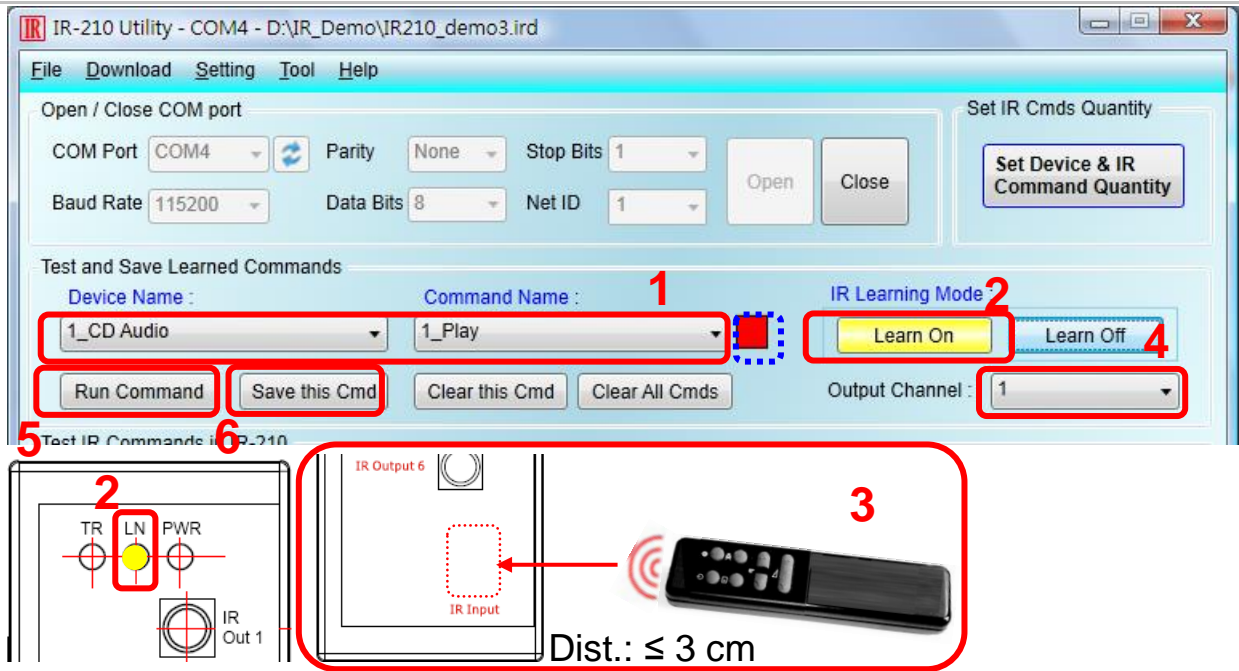

Fig. 12: IR Learning Steps
Learning steps are as follows and refer to Fig. 12:
- (1) Select the IR command item from “Device Name” and “Command Name” ComboBoxes.
- (2) Click “Learn On” button to enable IR learning mode where LN LED is ON.
- (3) Aim the emitter head of the remote control (RC) to the “IR Input” position of IR-210’s front panel and push the RC’s button which is to be learned. The distance between IR-210 and RC should be less than 3 cm. After IR learning is finished, the LN LED is OFF. The learning result is sent back to Utility.
- (4) Select the item of IR output channel combobox, e.g. IR Output 1 is selected.
- (5) Aim the IR emitter, which is plugged in IR Output 1 jack, at the IR receiver of the controlled device. Click “Run Command” button to check the effectiveness of IR learning command. Repeat step 2 and 3 if there is no action on the device.
- (6) Click “Save this Cmd” button to save the learning data to the item of “Command Name” combobox, e.g. the item in Fig. 12 is “Play”.